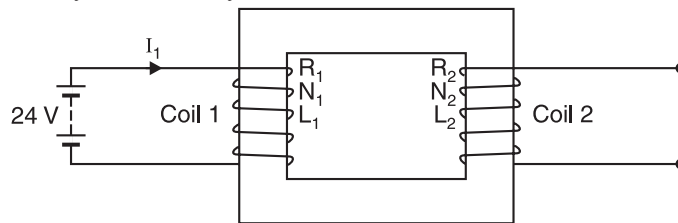

Fig. 9.11
**Example 9.18.** A battery of  $24\ \text{V}$  is connected to the primary (coil 1) of a two-winding transformer as shown in Fig. 9.11 and the secondary (coil 2) is open-circuited. The coil parameters are: